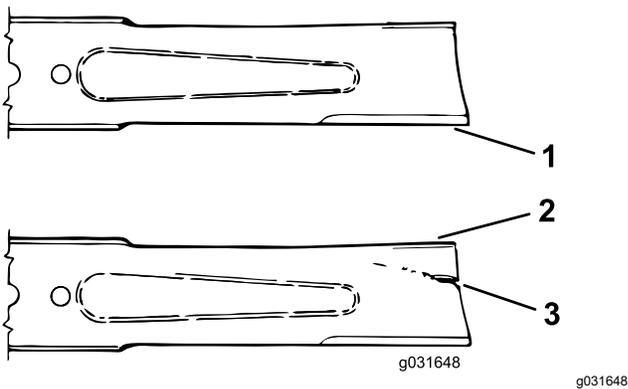

Figure 71
3. Examine the cutting ends of the blade carefully, especially where the flat and curved parts of the blade meet (Figure 71).